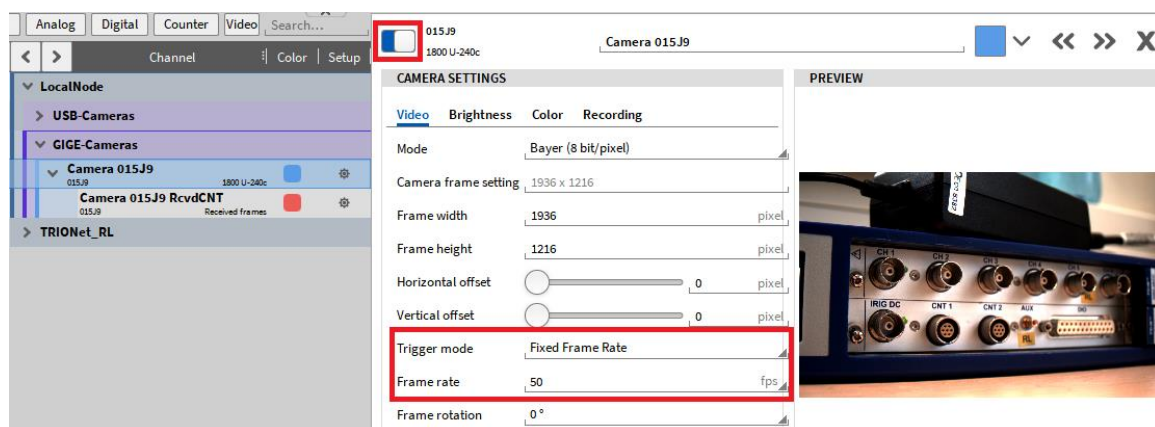

Figure 3-2
- Go to the Data Channels menu and turn the channel on by switching the Activate Channel button (make sure the Recording button is turned on). Now you can enter the Camera Settings via clicking on the gear symbol and change certain camera properties if desired. Here you can choose also your desired *Fixed Frame Rate* (see Figure 3-2).